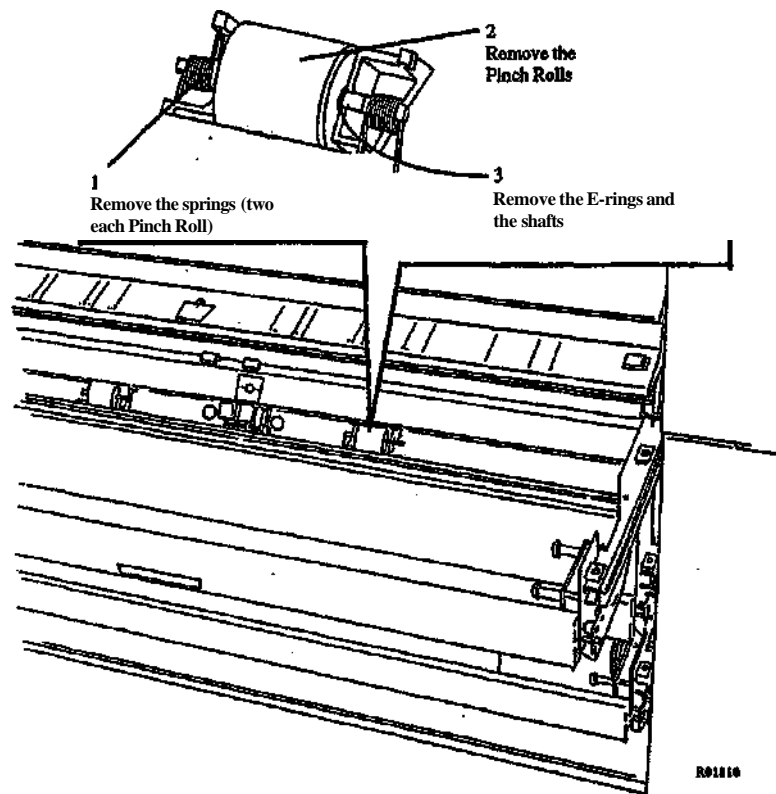

Figure 1. Removing the Roll Feed Pinch Rolls
2. (Figure 1): Remove the Roll Feed Pinch Rolls.